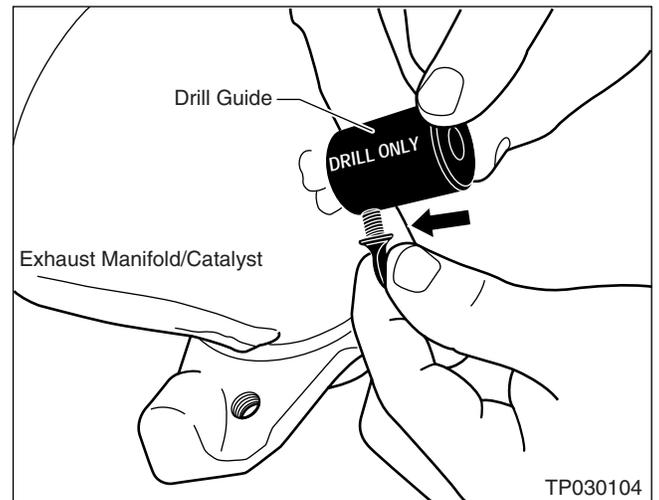

Figure G2
2. Install (push down until fully seated) and tighten the Drill Guide (identified by “DRILL ONLY”) onto the “boss” of the broken screw (see Figure G2).